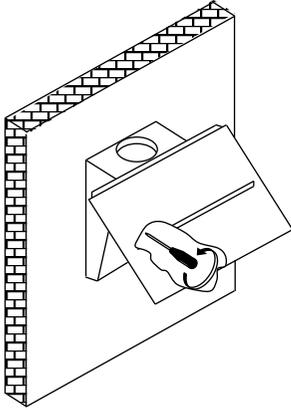

Fig 8
6. Drill both holes and fix the Vivaldi to the wall using plugs and screws provided (Fig 8).